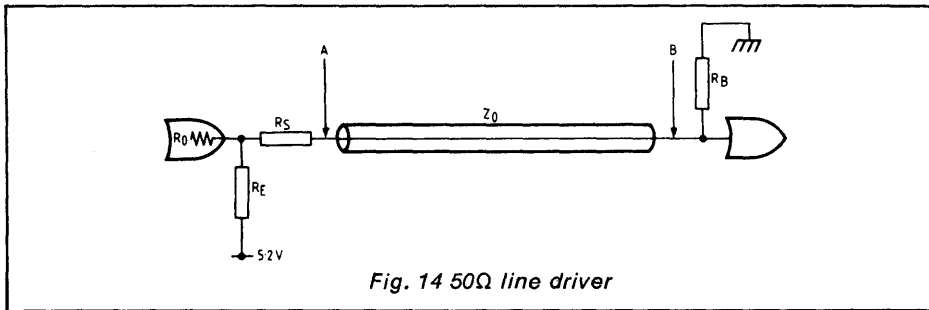

Fig. 14 50Ω line driver
Voltage drops across R_s limit loading to less than 10. However, multiple Z_o lines, with separate R_s resistors may be used. Overall slower propagation delay in series terminated mode may be a disadvantage, partly overcome by multiple transmission lines. This leads to the final line termination form, Fig. 14.
It can be seen from Fig. 14 that the driver is doubly terminated, and resembles both series and parallel systems. At the distant (B) end of the line,